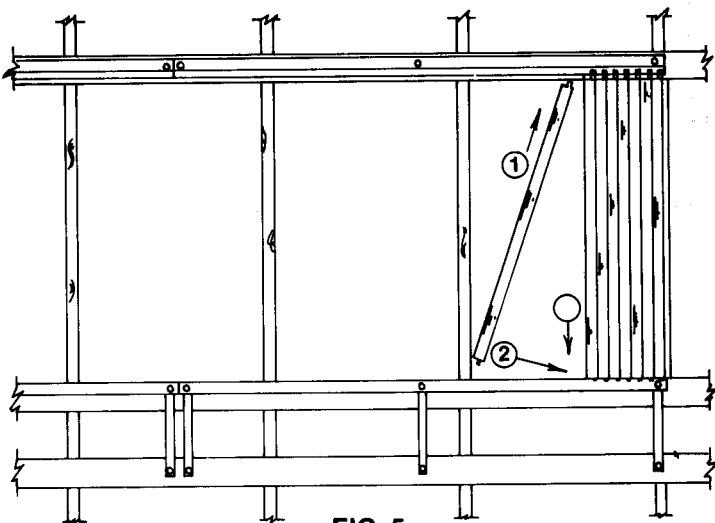

FIG. 5
8. To install the Light Trap Profile, start at one end and insert the long tabs into the slots in the light trap top (See Fig. 5). Then rotate the profile until it is in a vertical position and insert the short tabs into the slots in the light trap bottom.